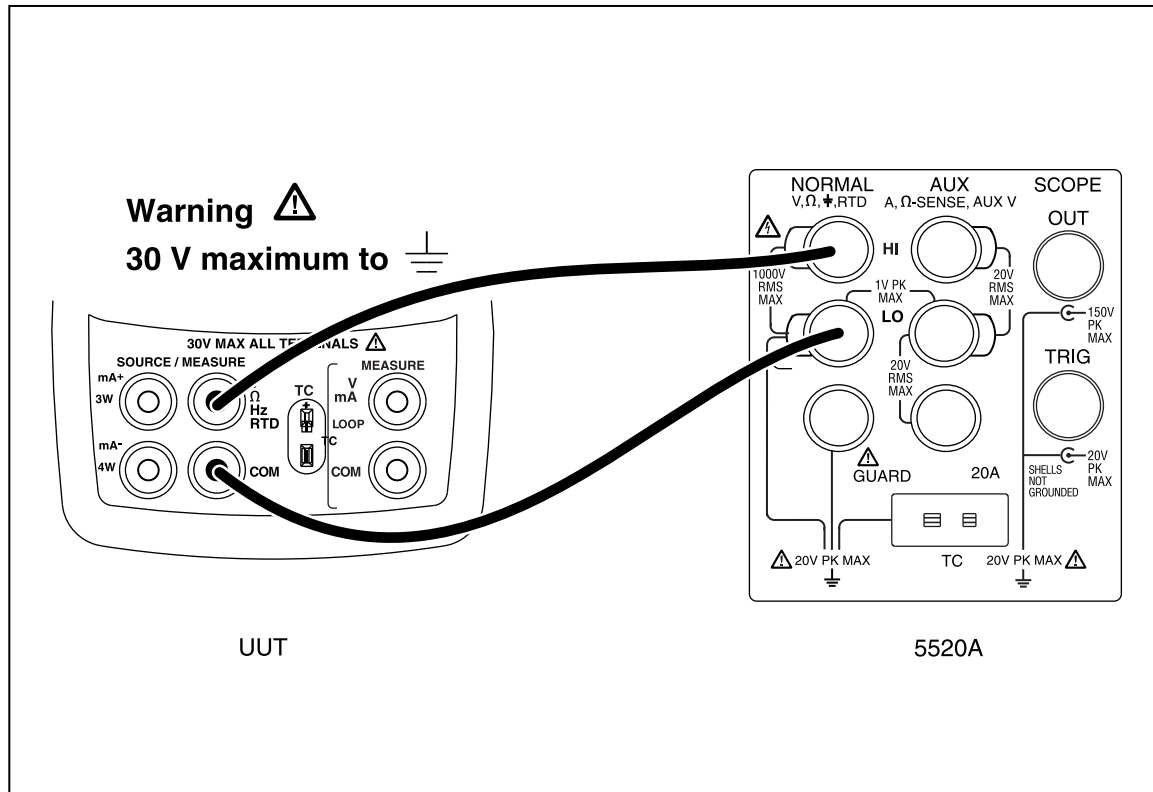

Figure 3. Lower Display mV and Voltage Test Connections
3. Make the connections shown in Figure 3.